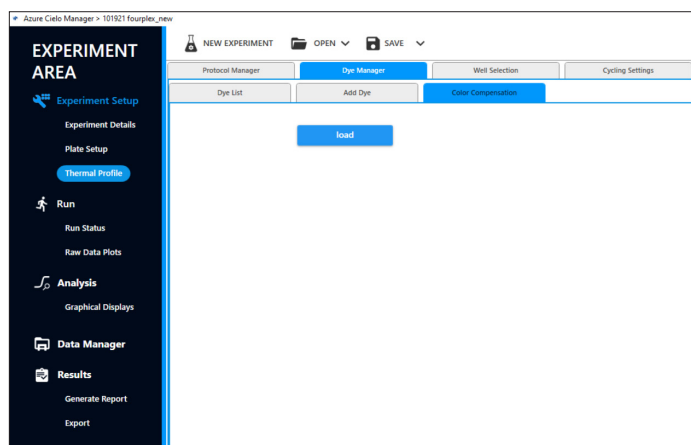

Figure 2.
5. Navigate to Experiment Setup > Thermal Profile. Click on the Dye Manager tab. Click on the Color Compensation tab (Figure 2).